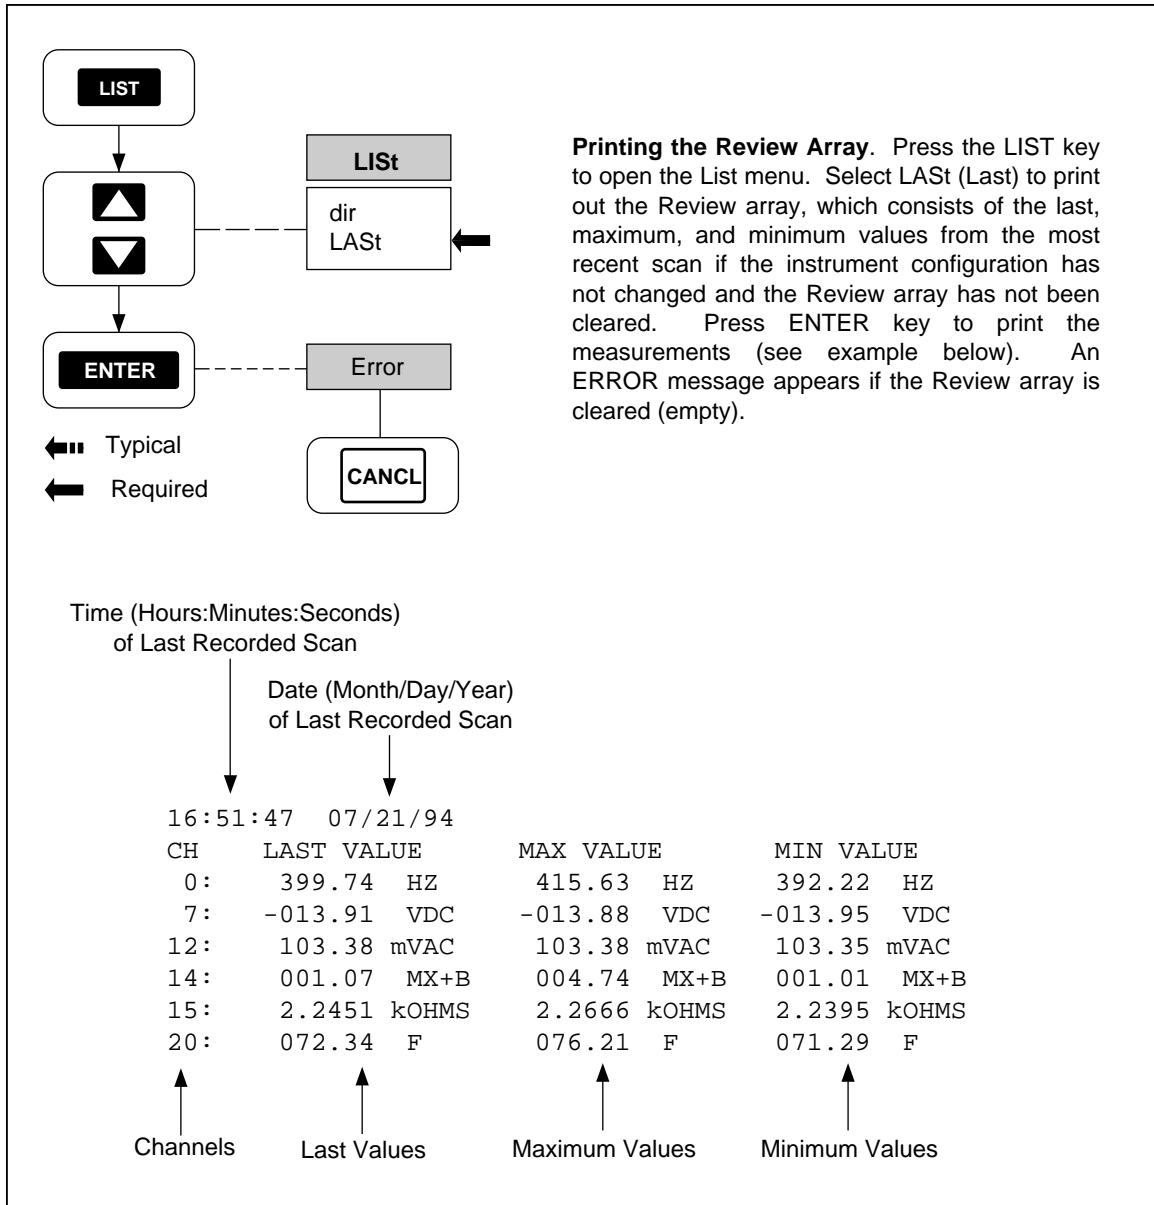

Figure 5-4. Printing the Review Array
- Printing the Review Array (Figure 5-4)
Perform the procedure in Figure 5-4 to print the Review array, which consists of the last, maximum, and minimum measurement values during the last scan, and previous scans if the instrument configuration has not changed or the review array cleared. If the Review array is blank (cleared), an error message is displayed with an audible "beep." If this occurs, press **CANCL** to exit the menu.